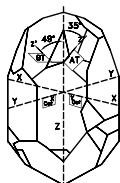

Fig. 7
**Crystal cuts:** A blank wafer is obtained by cutting the quartz bar at specific angles to the various axes. The choice of axis and angle cut determines the physical and electrical parameters of the resonator. Figure 7 shows combinations of X, Y, and Z rotational cuts which are labeled in industry as AT, BT, CT, DT cut, etc. The most two common cuts in Abracon crystals are AT and BT-cuts. There are differences in temperature coefficients of the two cuts.